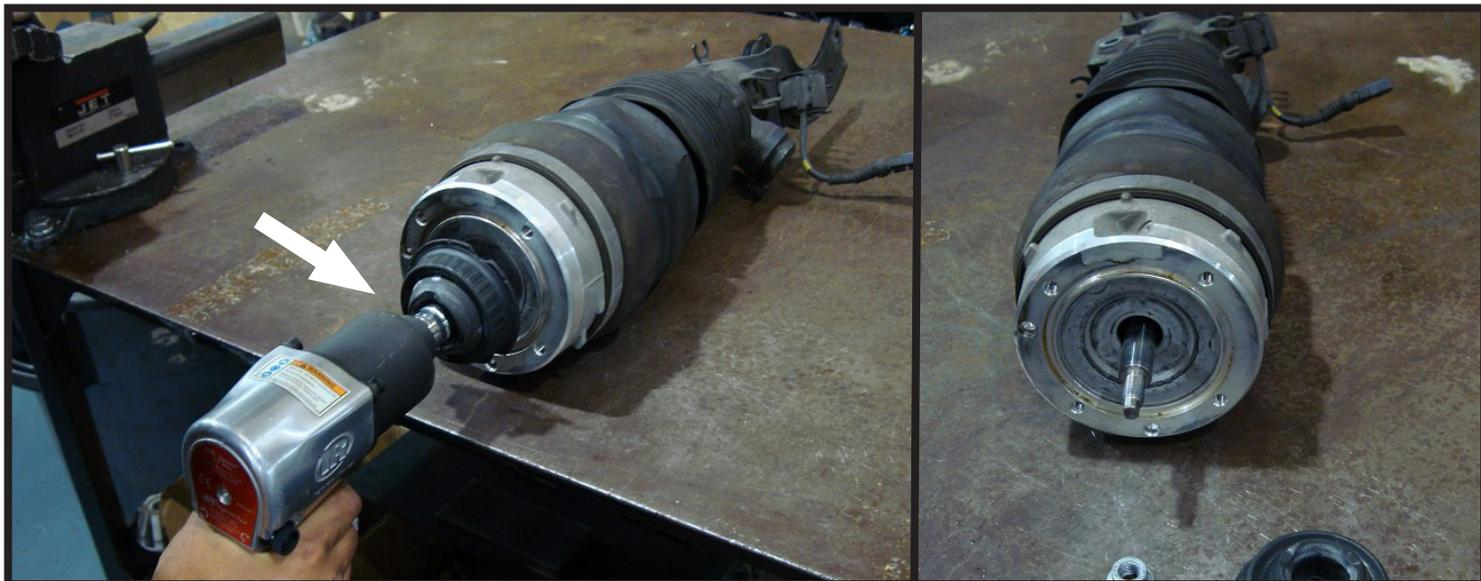

FIGURE 20-2
2. REMOVE THE TOP SHOCK ROD NUT FROM THE AIR SPRING. REMOVE AND DISCARD THE OLD RUBBER ROD END MOUNT AND THE O-RING. (FIGURE 20-2)